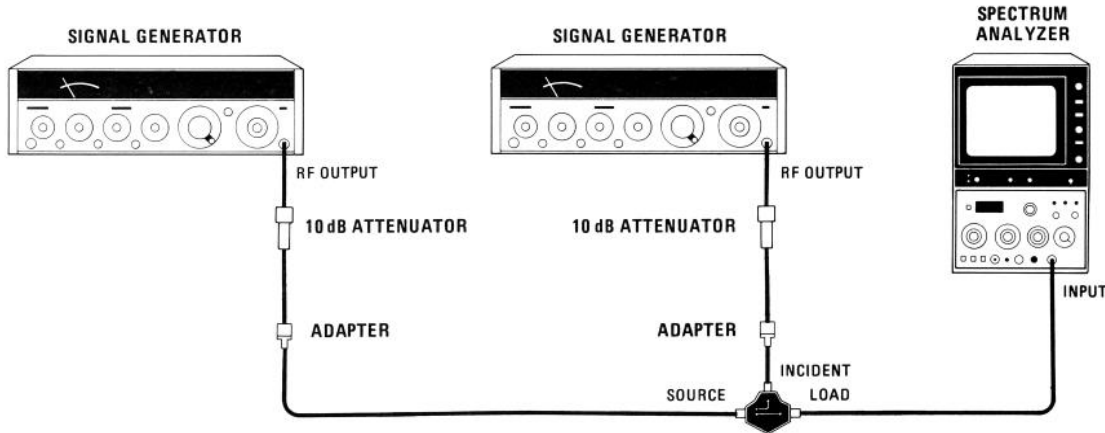

FIGURE 4-14. INTERMODULATION DISTORTION TEST SETUP
14. Connect equipment as shown in Figure 4-14.